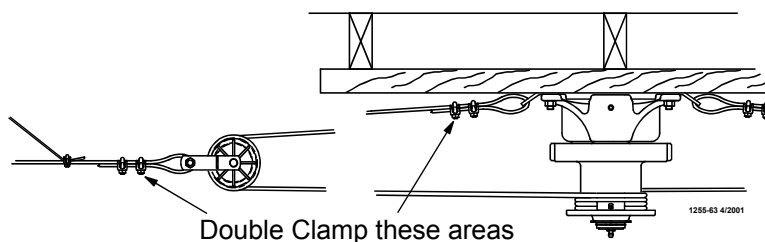

Figure 14. Double back arrangement for feed lines over 350' [107 m]
3. Extend the 3/16" [5 mm] Main Winch Cable the full length of the feeder line. Attach the cable temporarily to the ceiling with nails, staples, or some type of fasteners. **Figure 14.** shows a double back arrangement for feed lines over 350' [107 m].